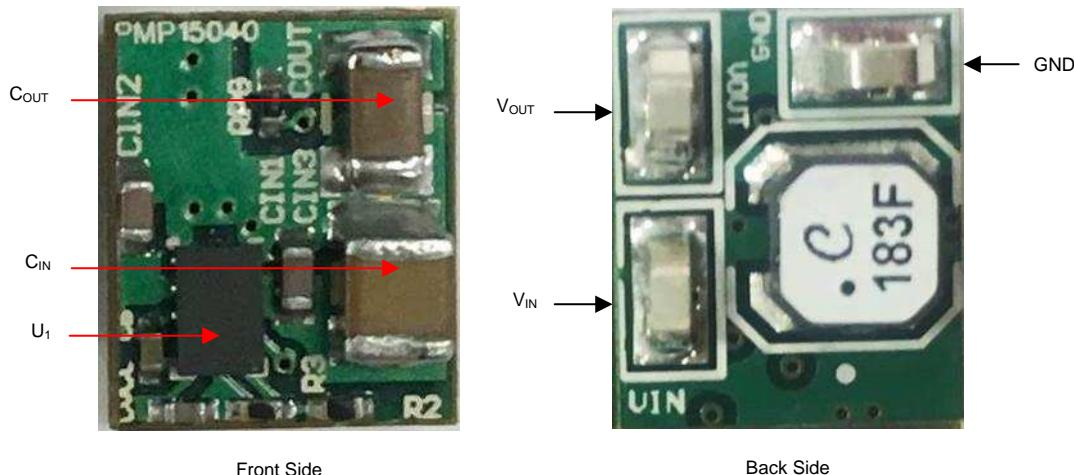

図 14. PMP15040 Board Setup
1. Connect a DC power supply to the board input as shown in 図 14.
2. Connect an electronic or resistive load to the LMR36006 output (V_{OUT}), as shown in 図 14, to imitate the typical load.